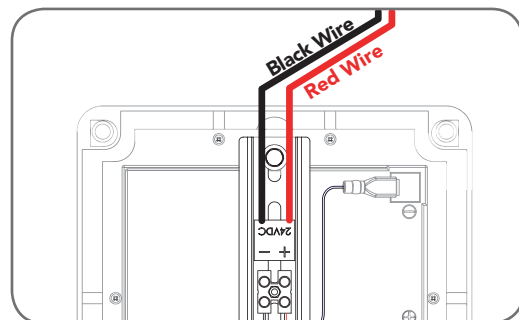

Fig 53
- Connect the **red wire** to the Battery Box's "+" terminal, and the **black wire** to the "-" terminal (Fig. 53).